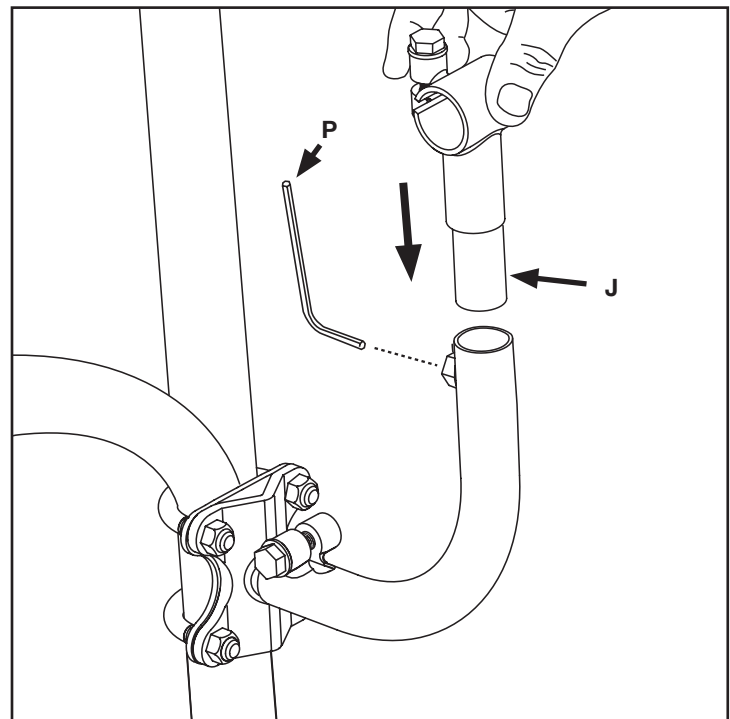

Fig. 4
### INSTALL THE UPPER MOUNTING POSTS (FIG. 4)
4. Insert upper mounting posts [J1, J2] into lower mounting posts as shown. (Fig. 4)
6. Snug but do not fully tighten. Leave the nuts loose for final adjustments of the mounting posts. Tighten set screws on the lower mounting posts with supplied Allen wrench [P]. Fig. 4